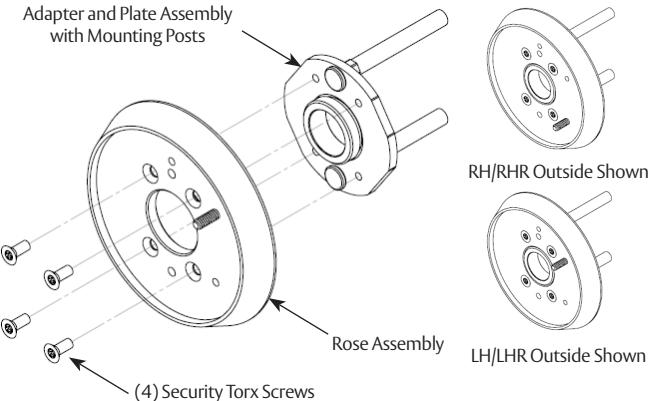

Figure 27
- Insert two (2) mounting posts into adapter plate. (Figure 27)
- Install rose using four (4) security Torx screws.